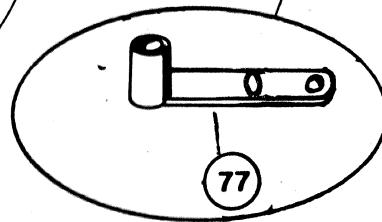

FIG. 1
2. Locate vertical rod brackets (No. 77) on top of the body edge, behind the door openings as illustrated in Fig. 1. Locate and Mount rear of bracket with existing bolts. Drill a 3/16" hole to install the No. 14 x 1/2" metal screws in the slotted holes.
- 4) Fold side panels of top up on to top deck and push front bow back against rear bow. (See figure 1)